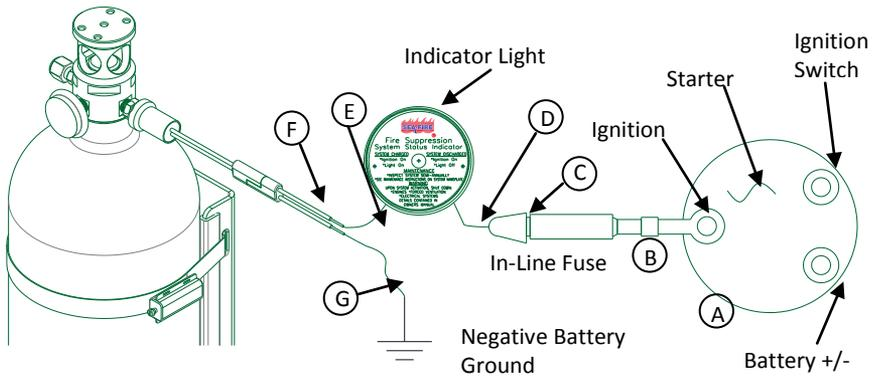

Figure 7
Select a location at the helm on or near the console that is in full view of the helmsman. The location selected must have access for electrical wiring. Remove the adhesive protective cover from back of indicator faceplate and attach. For proper adhesion, surface must be clean and dry and temperature must be above 50°F (10°C). Use the preformed faceplate hole as a template and carefully drill a 5/16 inch (8 mm) hole. Insert indicator light wire (see Figure 7).
1. Five (5) ampere in-line fuse and holder.
Attach one wire lead from the in-line fuse (C) to the ignition terminal on the starter switch. Connect other lead from the in-line fuse to the indicator light (D). Connect remaining indicator lead (E) to one of the Sea-Fire cylinder pressure switch connector wires (F). Connect the remaining cylinder pressure switch lead (G) to common ground, which may be the negative battery bus at the control panel, or directly to the engine block (see Figure 7).